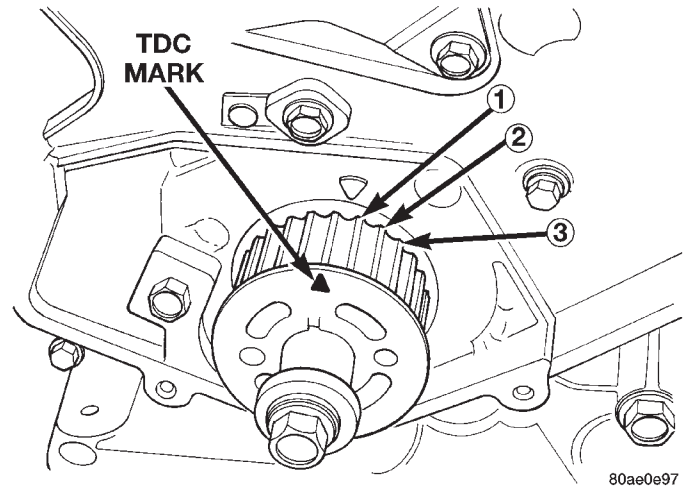

Fig. 53 Crankshaft Sprocket Timing
(1) Set crankshaft sprocket to TDC by aligning the sprocket with the arrow on the oil pump housing, then back off to 3 notches before TDC (Fig. 53).